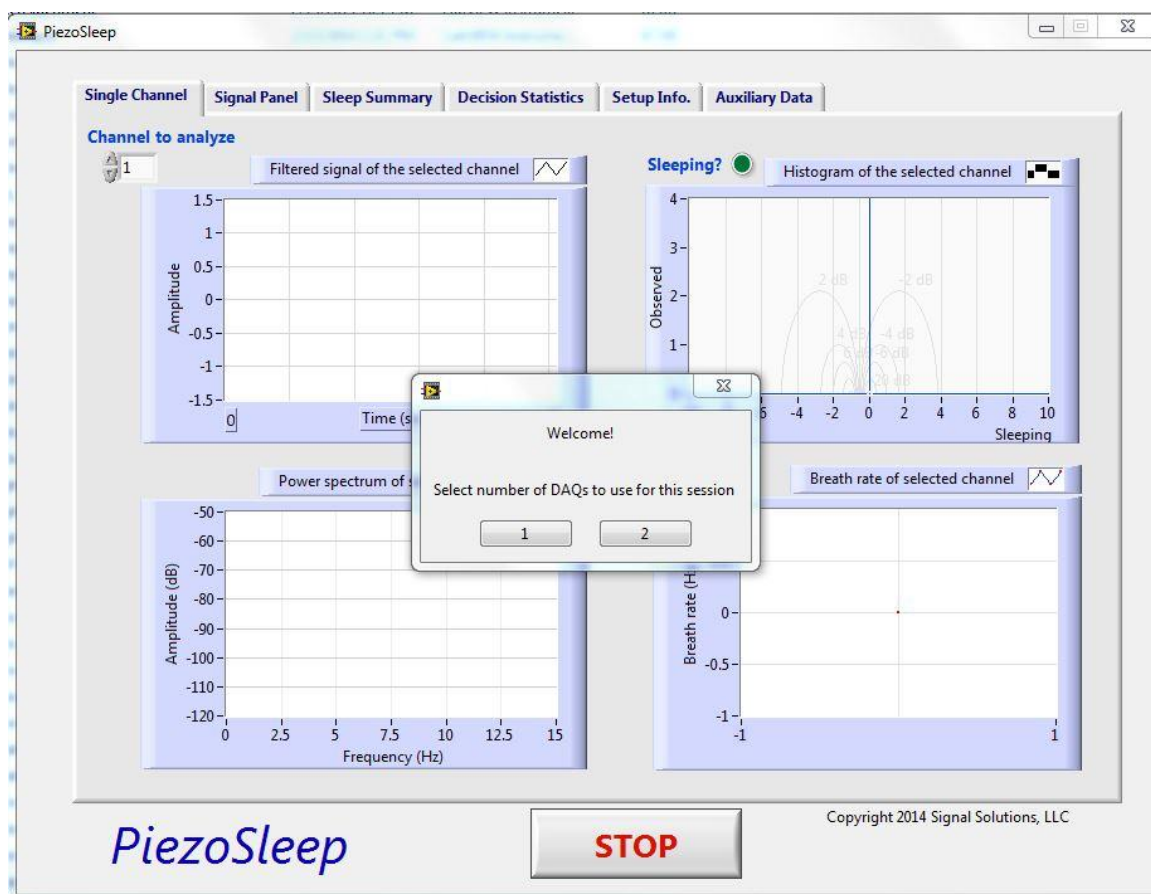

Figure 1. Starting windows for *PiezoSleep* program. From the dialog window, select the number of DAQs being used for the session.
- A. Launch *PiezoSleep* either from the desktop shortcut or from the start menu or from the location it was saved/installed on the hard drive. The windows shown in Fig. 1 appear after launching the program. *PiezoSleep* software can simultaneously acquire piezo sensor data from two NI DAQs. This is useful if the number of animals to be monitored is larger than the maximum channels supported by a single DAQ. Select the number of DAQs you will be using to collect data in the dialog window.